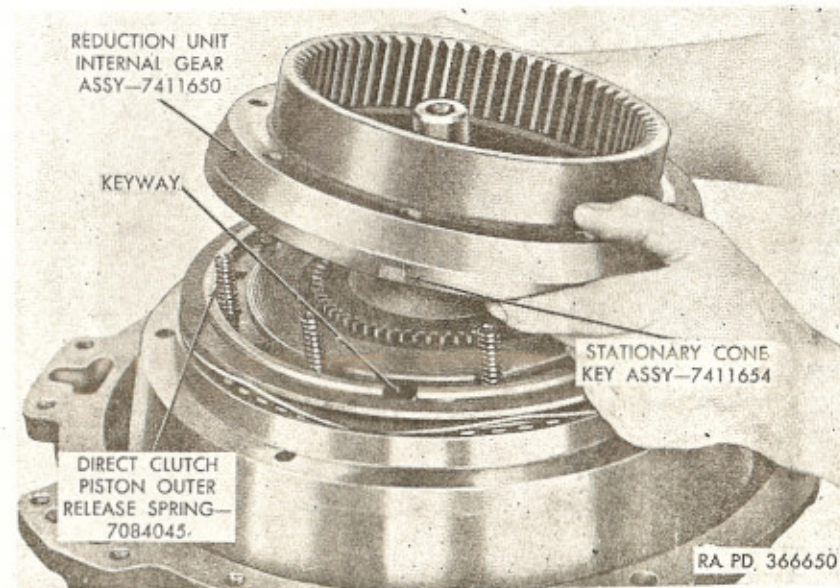

Figure 22. Removing or installing reduction unit internal gear assembly (303M).
b. Remove reduction unit internal gear assembly (fig. 22) by lifting straight up.